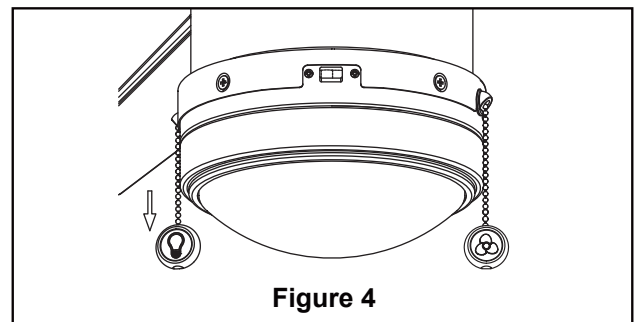

Figure 4
4. Carefully lift the fan and seat the downrod/hanger ball assembly onto the hanger bracket that was just attached to the outlet box. Be sure the groove in the ball is lined up with tab on the hanger bracket. (Figure 4)
5. Attach the safety cable to ceiling support cable. Slide cable clamp and washer onto safety cable (from fan). Place the end of cable through the loop of ceiling support cable. Pull as much cable through loop as possible. Feed end of cable into clamp hole and firmly tighten screw. (Figure 4)
4. Assemble the switch cover/light kit assembly onto the switch housing using the previously removed screws and securely tighten all screws. (Figure 4)
4. Check the operation of the light by gently pulling on the light kit pull chain. (Figure 4)